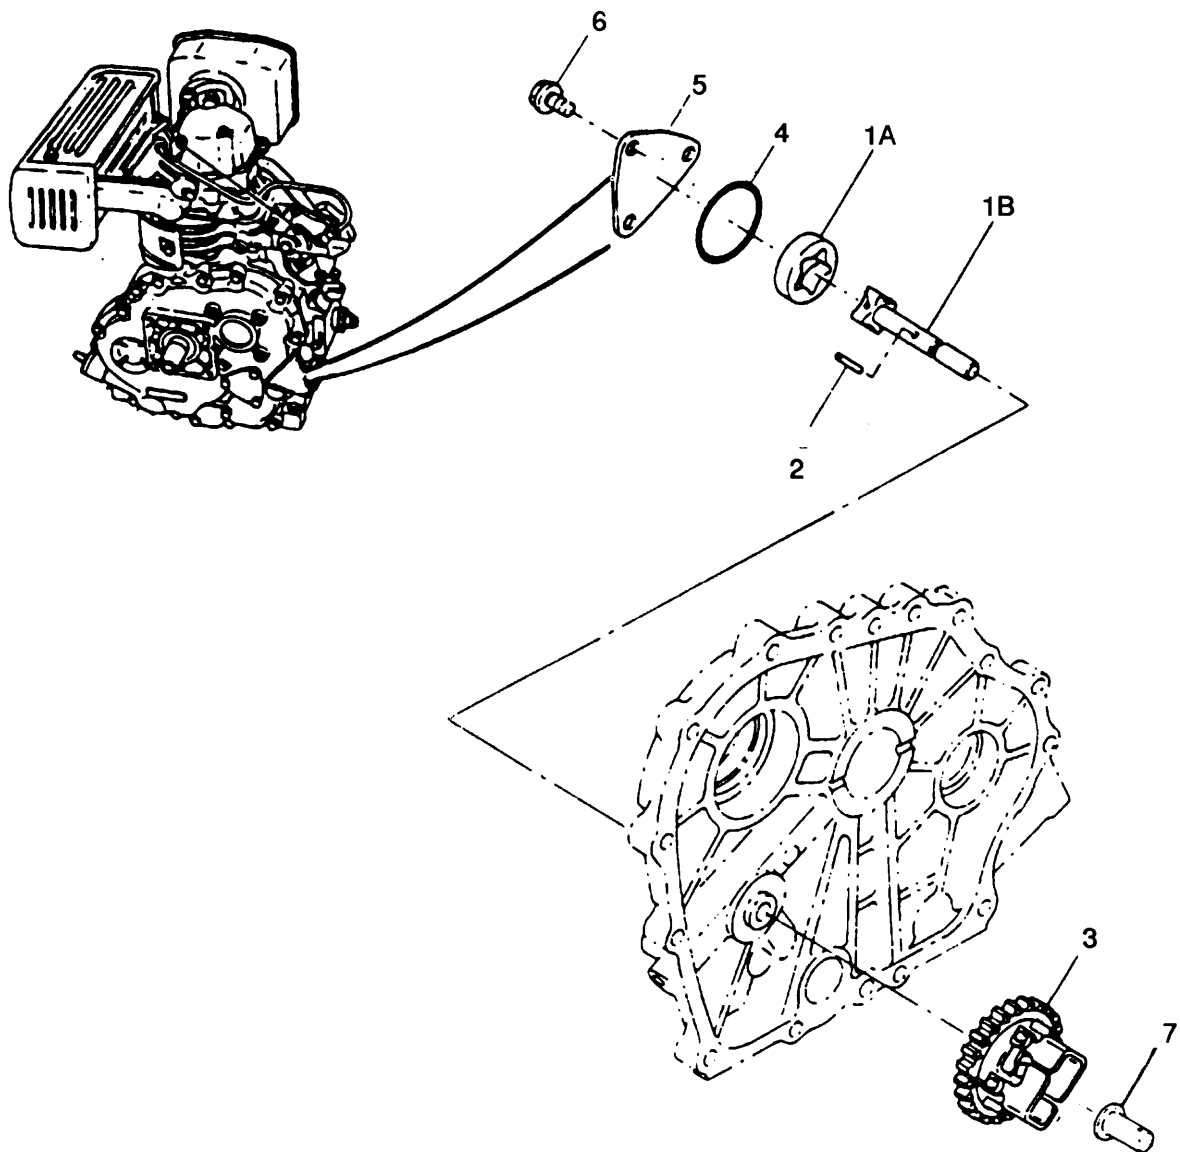

Figure 5-14. Lube Oil Pump Assembly
- a. Insert lubricating oil pump assembly (1) from the outside of the crankcase cover. Coat the rotor with oil before installing the cover.
- b. Insert parallel pin (2) into the lubricating oil pump shaft (1B). (Refer to Figure 5-14)
- c. Insert spindle (7) (refer to Figure 5-14) into the weight on governor gear (3), then push the spindle onto the shaft. Ensure that gear is firmly inserted onto pin (2).